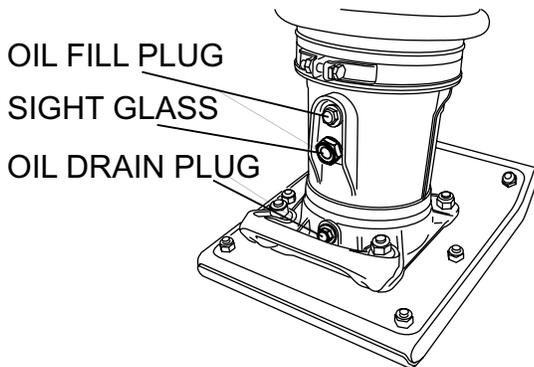

Figure 3. Foot Housing Sight Glass
1. Check the oil level through the oil level sight glass (Figure 3) at the rear of the tamper foot.
2. If oil is not visible, add 10W-30 SE, SF or higher grade motor oil into the oil fill plug opening (Figure 3). The bath contains approximately 1.4 pints (650 cc.)